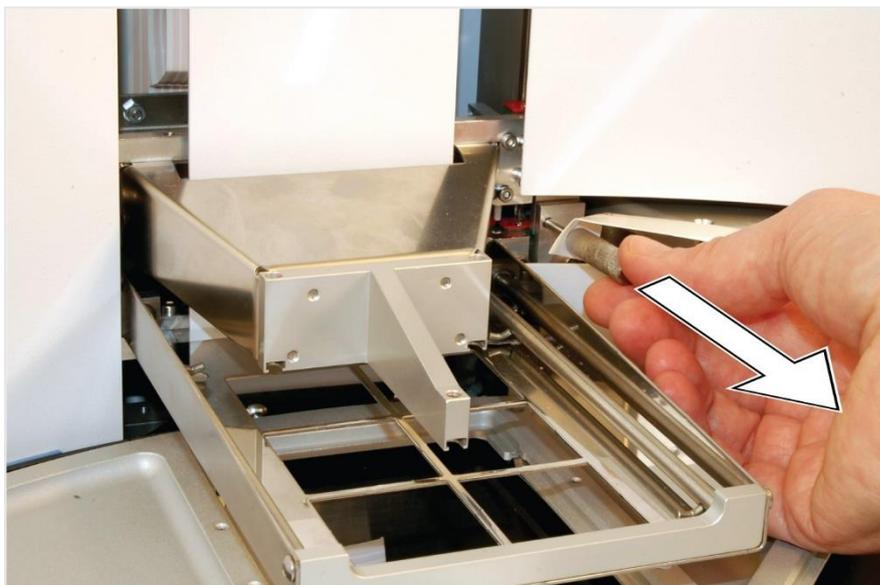

Figure 11. Tip comb holder transport lock removed
2. Pull the transport lock out of the hole and store it for future relocation (Figure 11). When you relocate the instrument, refer to How to refit the transport lock of the tip comb holder.
**Note** Keep the transport locks (Figure 11 and Figure 13) for future transportation of the instrument.